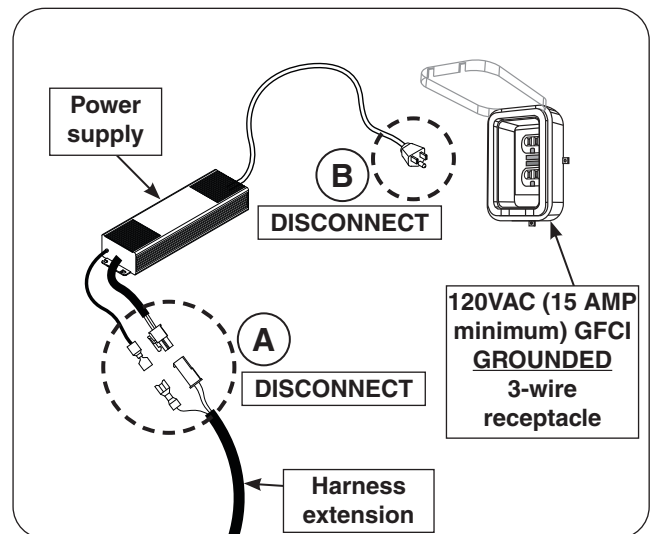

Fig. 33-3 Perform system reset
2. Disconnect the harness extension from the power supply (see Fig. 33-3, A).
3. Disconnect the power supply from the power source. (see Fig. 33-3, B).